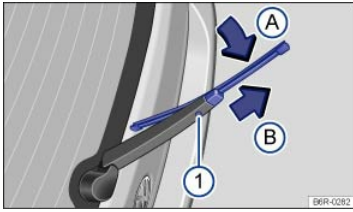

Fig. 196 Changing the rear window wiper blades.
- Lift the wiper arm away from the rear window in the direction of arrow Ⓐ ⇒ *Fig. 196*.
- Press and hold the release button ⇒ *Fig. 196* ⓘ.
- Install a new wiper blade of the **same length and type** onto the wiper arm by pushing in the opposite direction of the arrow ⇒ *Fig. 196* Ⓑ until it latches.